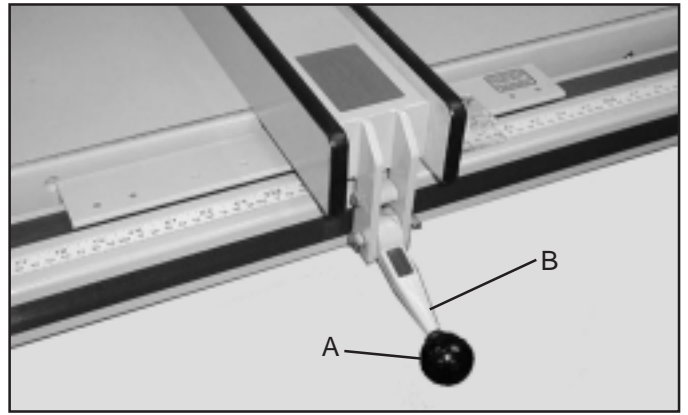

Fig. 23
1. Attach knob (A) Fig. 23 to locking handle (B). Knob is screwed onto threads of locking handle.